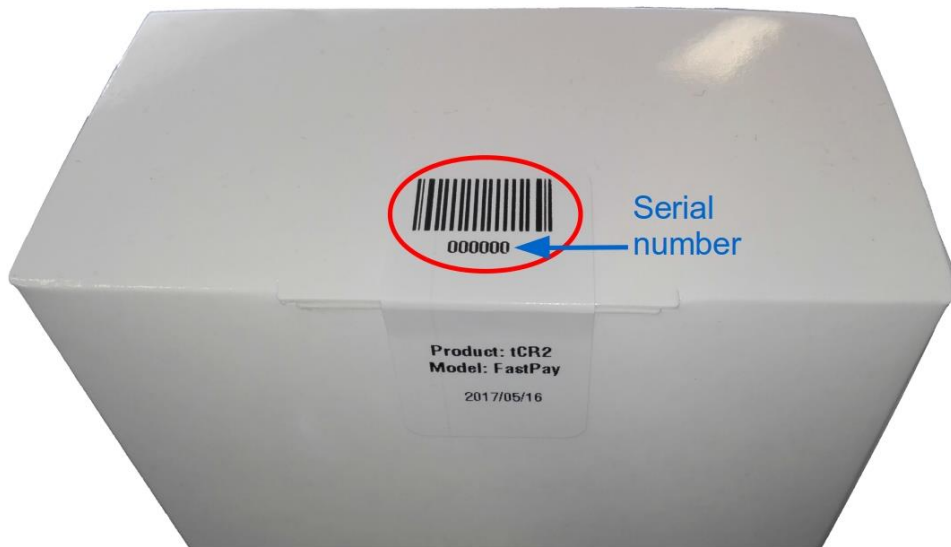

Figure 3 : View of box showing the location of the serial number.
3. Check that the device serial number (Refer to Figure 3) corresponds to the delivery documentation